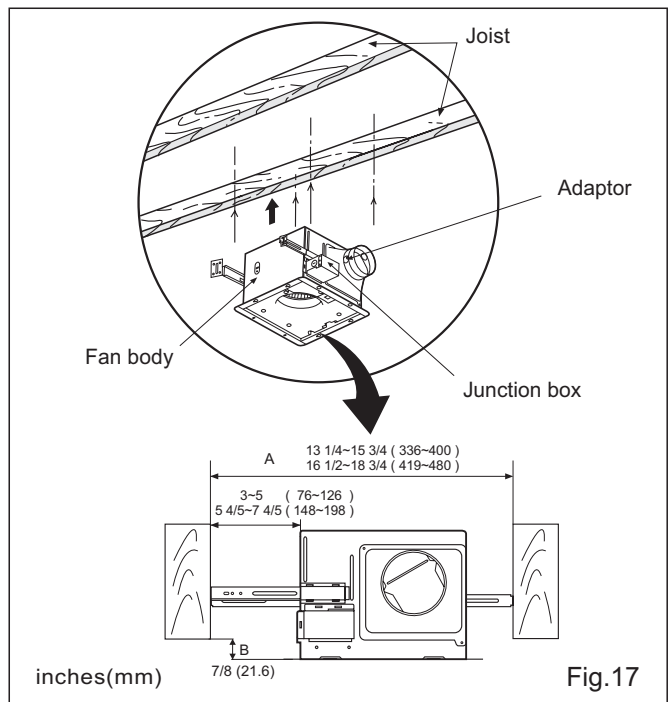

Fig.17
3. Insert the fan body between joists. Make sure the fan body is level and square (perpendicular) with the joists. (Fig.17) Keep the distance B (7/8 inch, 21.6mm) for the thickness of ceiling board.